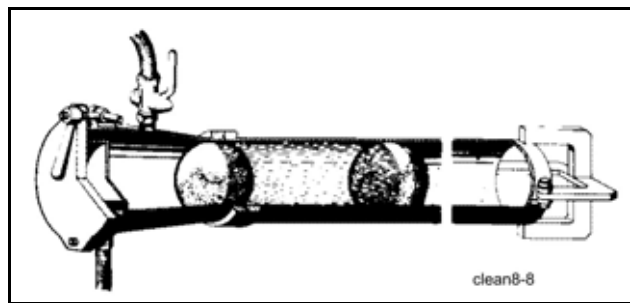

Fig. 233 Rinsing the delivery line
- To do this, press a soft sponge rubber ball about 1 m into the delivery tube (**Fig. 233**).